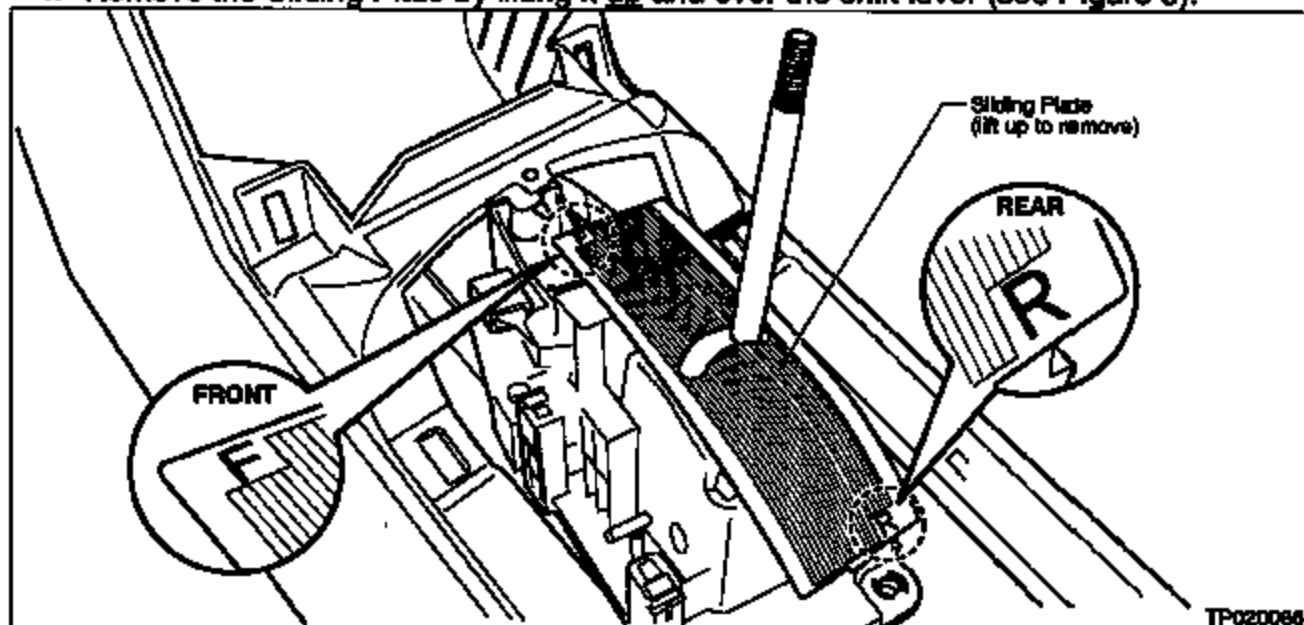

Figure 5
4. Remove the Sliding Plate by lifting it up and over the shift lever (see Figure 5).
6. Install a new indicator assembly Sliding Plate—listed in the Parts Information (see Figure 5).